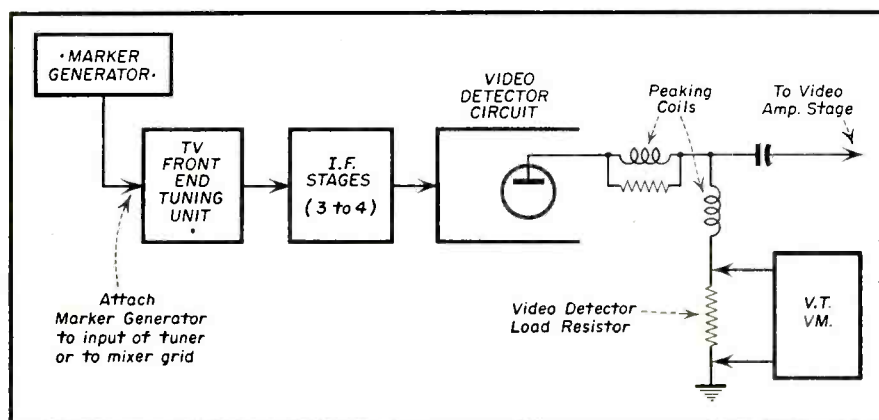
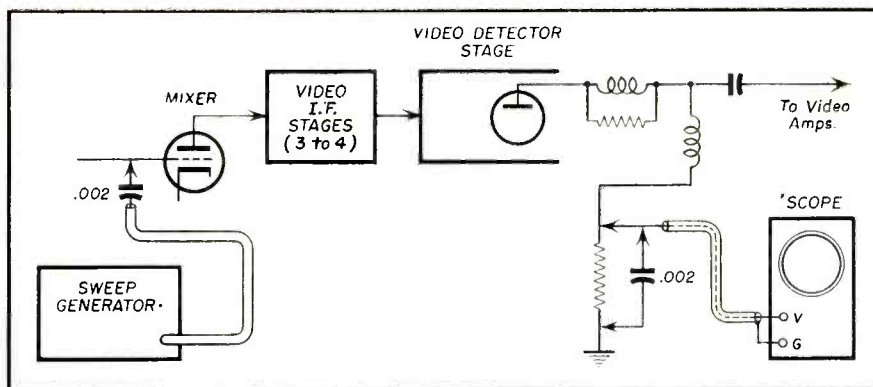

Fig. 6. Use of marker to check for trap and i-f alignment in stagger-tuned system.
Fig. 5. Isolating and by-pass capacitors aid in proper sweep and 'scope performance in the alignment operation of a TV receiver.
Fig. 6. Formulas for series-derived high-pass filter for television receivers. The method of calculation is the same as for the low-pass filter. The only difference is that in determining "m" from the graph, Fig. 5A, divide the attenuation-peak frequency, f_p , by the cutoff frequency, f_{co} , and use that value on the horizontal axis of the curve instead of $\frac{f_{co}}{f_p}$.
In some of the tests that have been run where the transmitting and receiving equipment were but a few feet apart, a filter composed of four shunt-derived II sections was found to be the most effective in rejecting 20-, 11-, and 10-meter signals. A comparable series-derived filter theoretically has the same attenuation characteristics, but it doesn't reject quite as well under these particular conditions. A study of these filters is in progress but, in the meantime, simplified equations have been prepared, and a number of the filters have been built by amateurs and have been installed at the input terminals of their neighbor's television sets. Figure 6 shows the simplified formulas for series-derived high-pass configurations. All of the filters discussed in this article have been developed from the basic equations presented in T.E. Shea's textbook, "Transmission Networks and Wave Filters". Figure 7 shows the simplified shunt-derived data. Graphs for "m" and "K" in the intermediate sections of the low-pass filters are also used for the constants in the high-pass filter formulas.
3. When aligning video or FM i-f stages, the general hookup is similar to that shown in Fig. 5. Two precautions should be observed here: Use an isolating capacitor in series with the sweep generator so that bias voltages will not be shunted by the generator. A capacitor across 'scope output as shown in the illustration helps reduce pick-up of spurious signals.
5. Remember that your marker generator is really a single signal generator, and as such is the perfect instrument for aligning "stagger-tuned" i-f stages if you are sure it is accurately calibrated. Use the marker as shown in Fig. 6 for trap and i-f alignment of a stagger-tuned system; then check over-all response with sweep and 'scope as shown in Fig. 5.